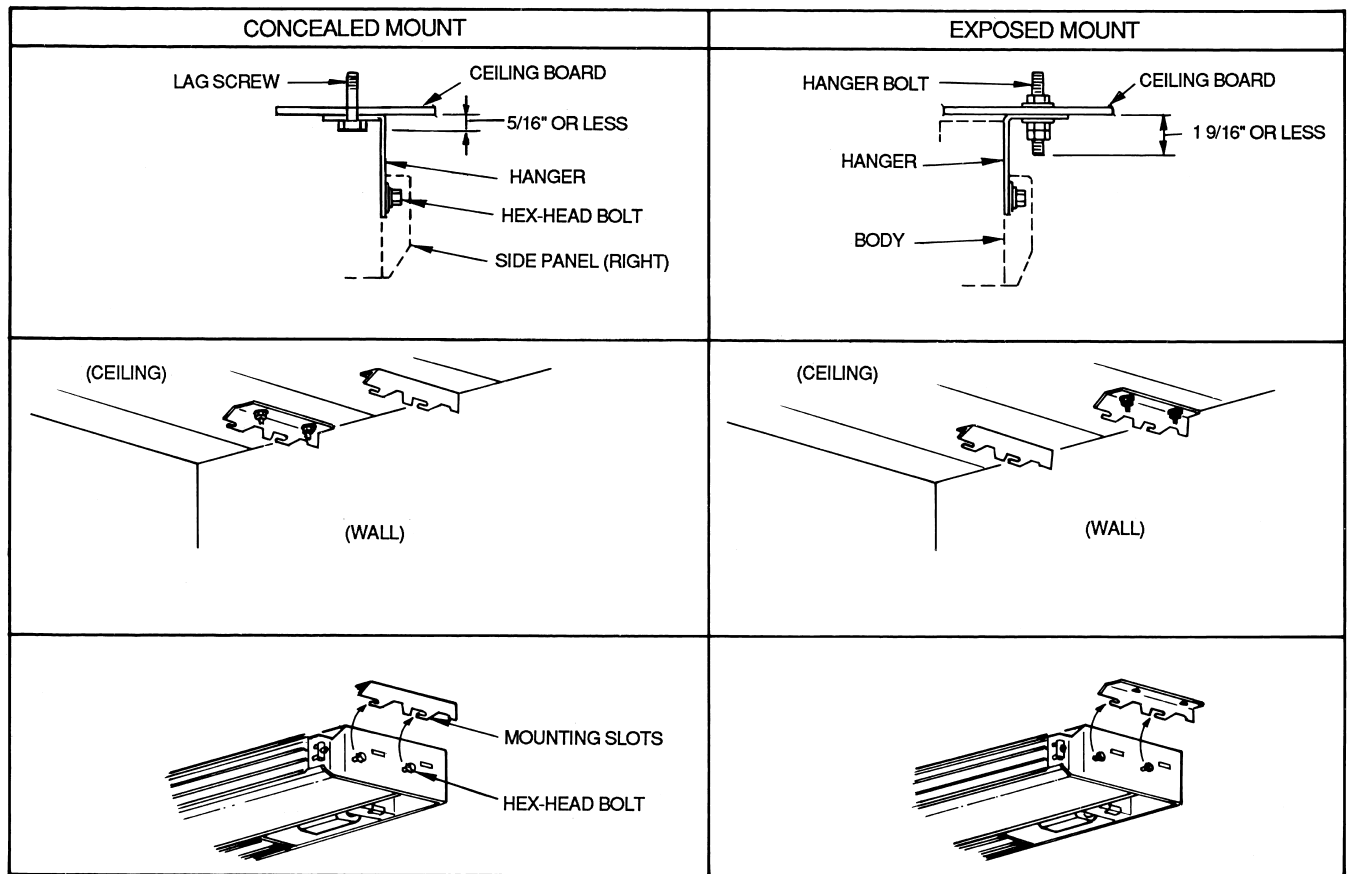

Fig. 10 — Mounting Hanging Brackets
4. Mount hanging brackets on ceiling (Fig. 10) for either concealed or exposed bolt hanging position.